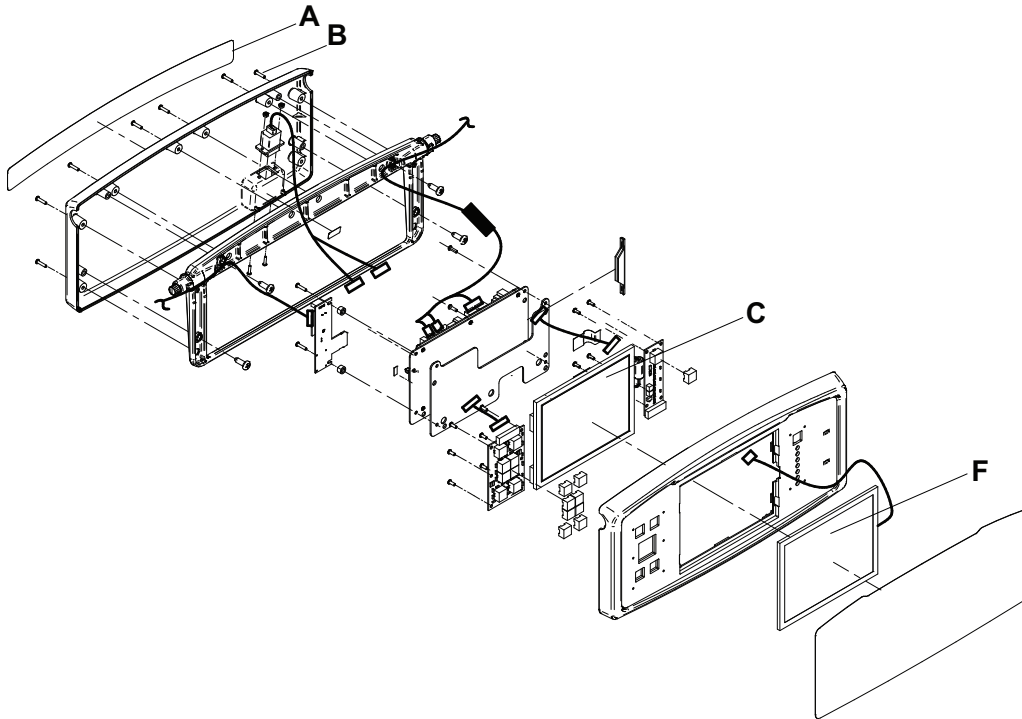

Figure 61 – Footboard assembly
3. Using a small slotted screwdriver or a utility knife, remove the fascia back foot control label (A) (Figure 61).
4. Using a #2 Phillips screwdriver, remove the six screws (B) that secure the footboard display panel to the footboard (Figure 61). Save the screws.
8. Remove the display panel (C) from the footboard assembly and turn over to display the circuit boards (Figure 61).
17. Separate the touch screen (F) from the display housing (Figure 61).